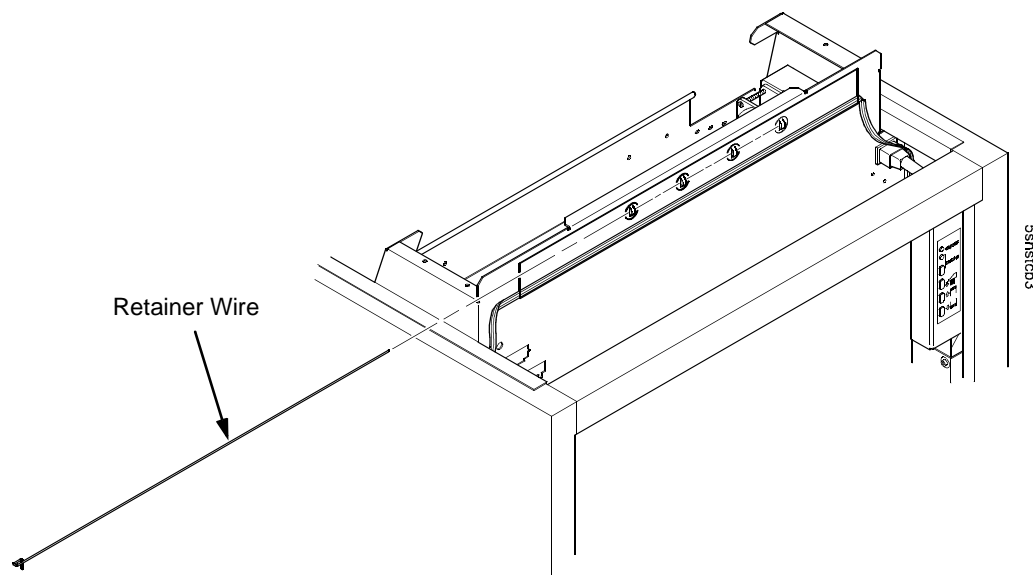

Figure 74. Installing the Cable Routing Guide Retainer Wire
12. Slide the retainer wire over the cable routing guide and through the four chain hooks. (Figure 74.)